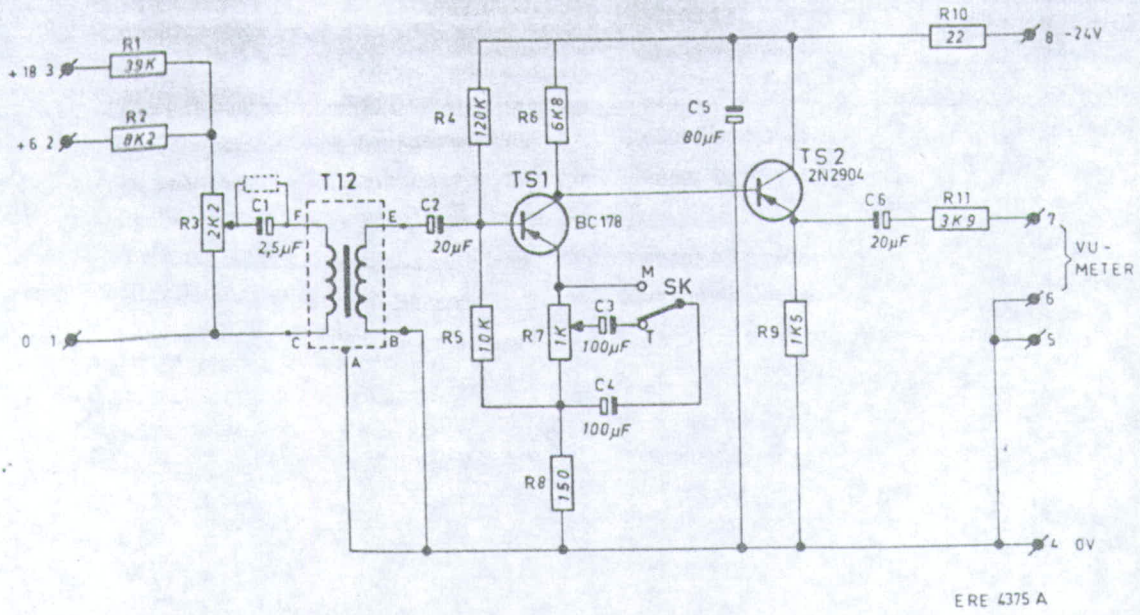

Fig. 11
If necessary, adjust with R3 (see Figs. 11 and 12).
If necessary, adjust with R7 (see Figs. 11 and 12).
2. Circuit description (see Fig. 11)